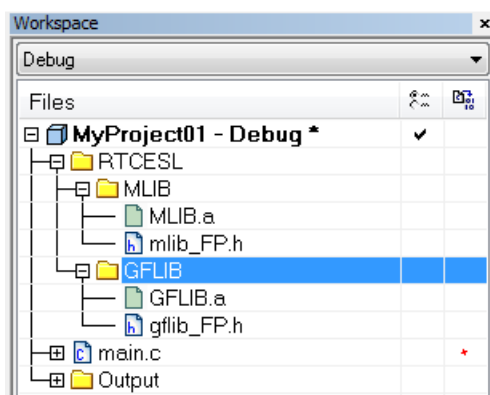

Figure 1-44. Project workspace
4. Click on the newly created node MLIB, and go to the main menu Project > Add Files... See Figure 1-44.
11. Now you will see the files added in the workspace. See Figure 1-44.